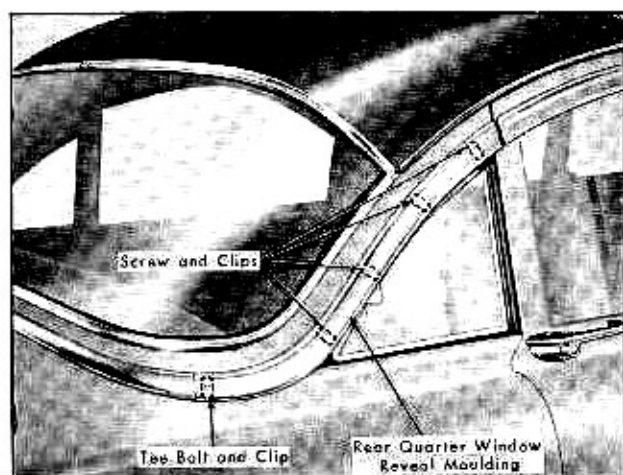

Fig. 3-8 Reveal Molding Attaching Points
3. Remove molding attaching screws and remove molding. Fig. 3-8.
(9) Rear Door Window Rear Reveal Molding Removal and Installation (60S)